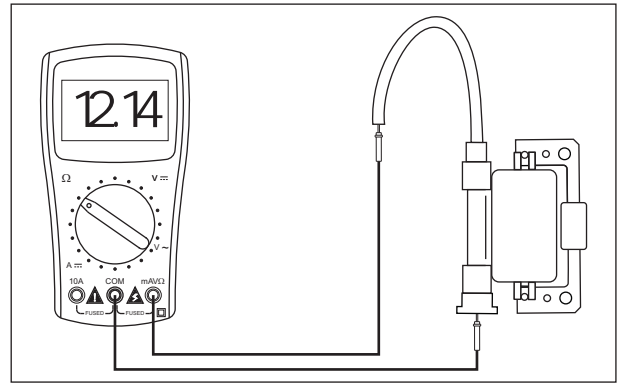

Fig. 5.13
- Remove the suppressor cap from the HT cord. Connect the pocket tester's '+ve' lead to the HT cord and '-ve' lead to any terminal of the ignition coil coupler and measure the resistance. (Fig. 5.13)